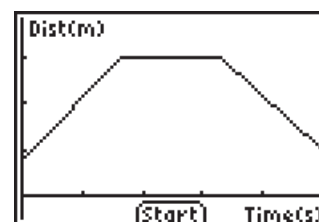

Figure 6
- Select **Next** (by pressing $\boxed{\text{ZOOM}}$) to display the graph that is to be matched for this activity. Take a moment to study the graph with your students. Have them answer questions 1–5 on their worksheet. **See Figure 6.**